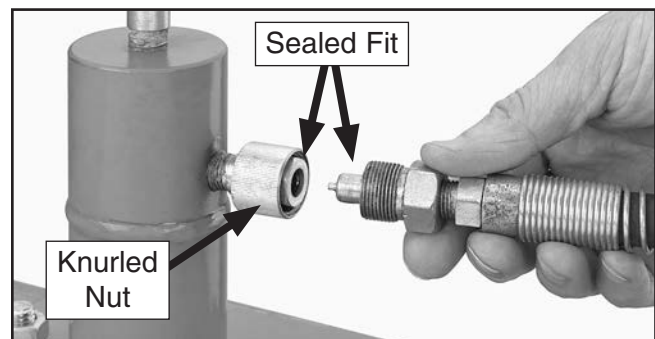

Figure 15. Hydraulic line installation.
18. Remove the plastic caps, connect the pressure line to the piston housing, and thread the knurled nut onto the self-sealing hydraulic fitting. Do not use Teflon tape or thread sealant of any kind on this type of fitting, as it employs a self-sealing design (see **Figure 15**).